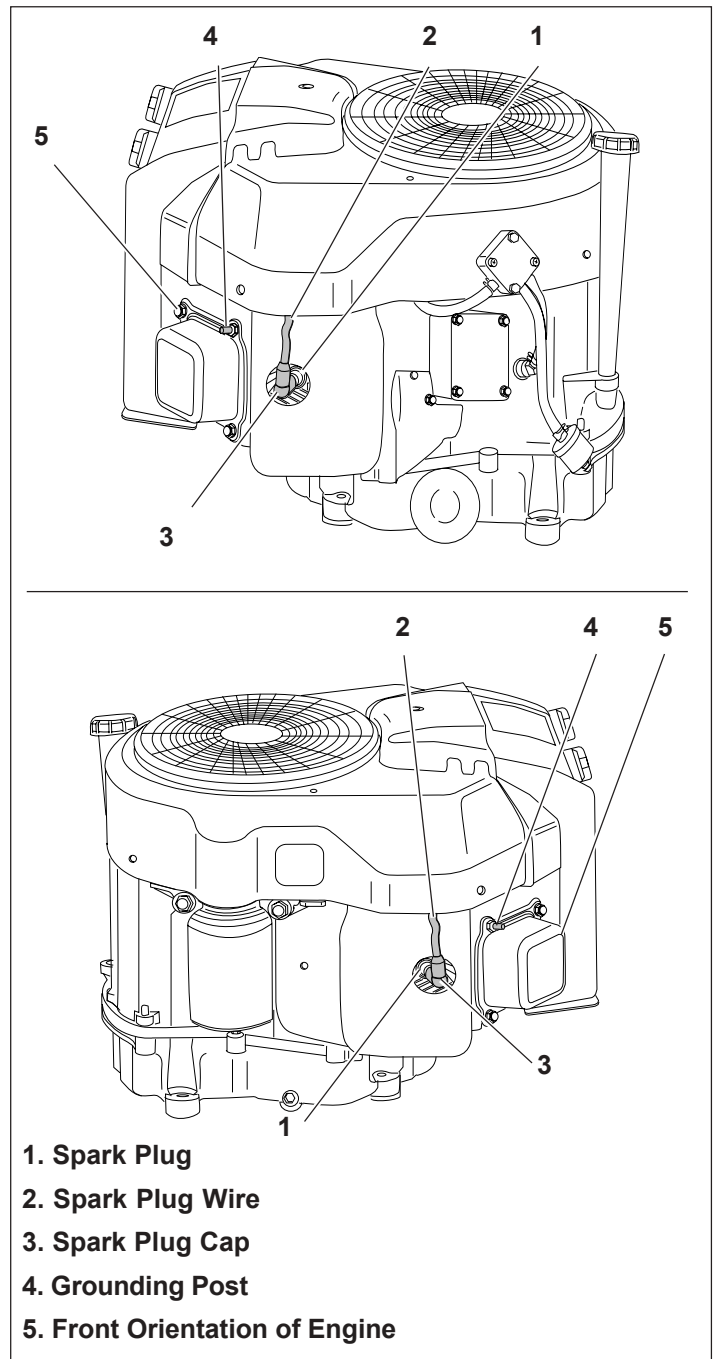

Figure 7. Spark Plug Locations
WARNING To prevent accidental starting when working on equipment, always disconnect spark plug wires and keep them away from spark plugs by attaching them securely to grounding posts. See Figure 7.
2. Disconnect spark plug wires and keep them away from spark plugs by attaching them securely to grounding posts. See Figure 7.
9. Carefully remove spark plug wires from grounding posts and connect to spark plugs. See Figure 7.